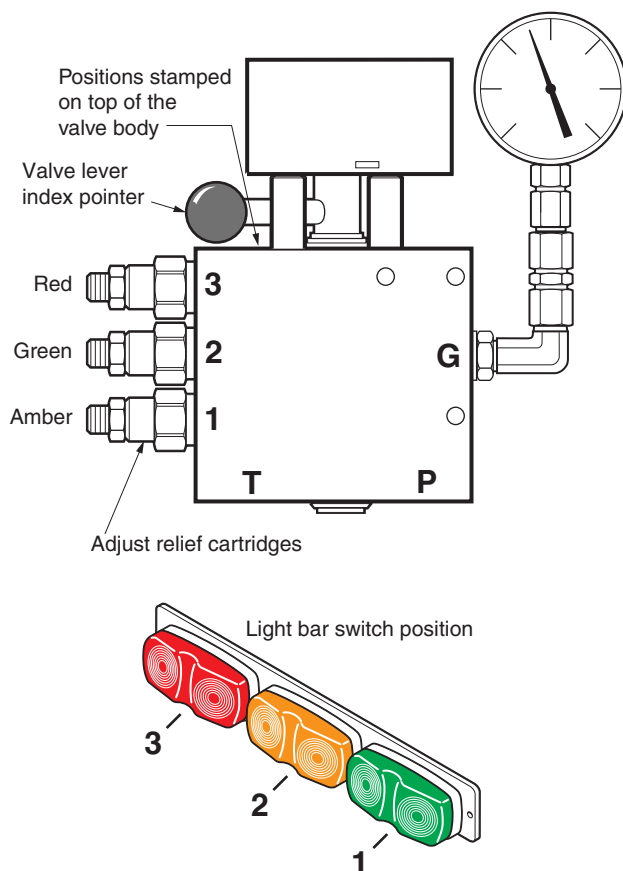

Figure 5, Light display
To set the valve relief cartridges, install a 5000 psi (345 bar) pressure gauge and fitting to the valve G port, see Figure 5. A clamp force indicator can also be used to adjust the relief cartridge settings.
1. Shift the valve lever index pointer to position 1 stamped on the valve body. See Figure 5.
2. Loosen the jam nut on the No. 2 relief cartridge. Adjust the relief cartridge (3/16-in. Allen hex wrench) inward (CW) to raise pressure or outward (CCW) to lower the pressure.
4. Shift the selector switch to position 2. Loosen the jam nut on the No. 1 relief cartridge. Adjust the relief cartridge inward (CW) to raise pressure or outward (CCW) to lower the pressure.